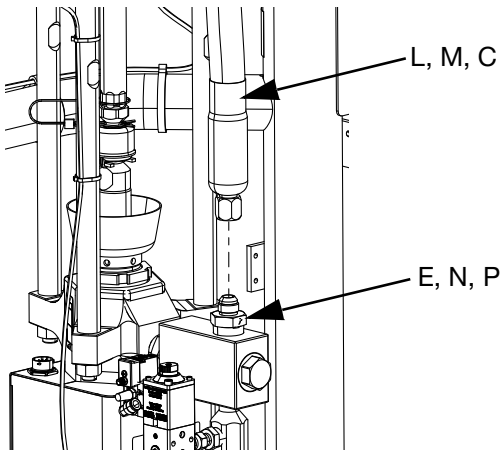

FIG. 22
4. If using a Single iQ Ram Supply System, connect Supply Hose 1 (C) to the Ram Supply System to Supply Hose 1 Fitting (E) as shown in FIG. 1 and FIG. 22.
- a. Connect Tandem Hose 1 (L) to the Ram Supply Unit 1 to Tandem Hose 1 Fitting (N) as shown in FIG. 2 and FIG. 22.
- b. Connect Tandem Hose 2 (M) to the Ram Supply Unit 2 to Tandem Hose 2 Fitting (P) as shown in FIG. 2 and FIG. 22.